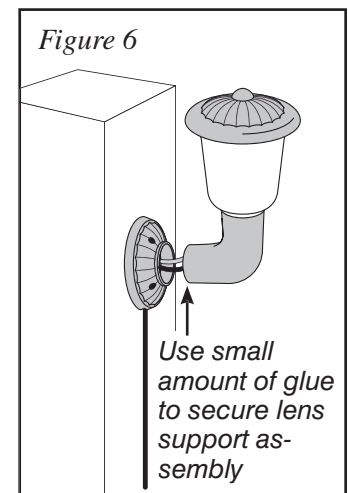

Figure 6
7. When you are satisfied with the placement of the fixtures, glue the lens support pieces using a small amount of glue (provided). Be careful to keep the glue off the outside of the support pieces. See *Figure 6*.